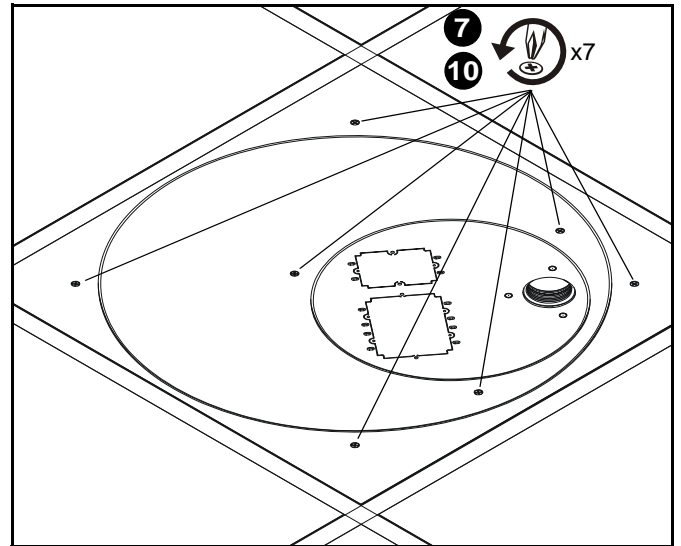

Figure 3
5. Press center tip of tool (M) into *finished* side of ceiling tile at marked location. Cut extension column hole through tile using back and forth hand twisting motion.
7. Loosen seven clamp screws in lower (finished) side of tray (A) (See Figure 3).
10. Tighten clamp screws (See Figure 3).